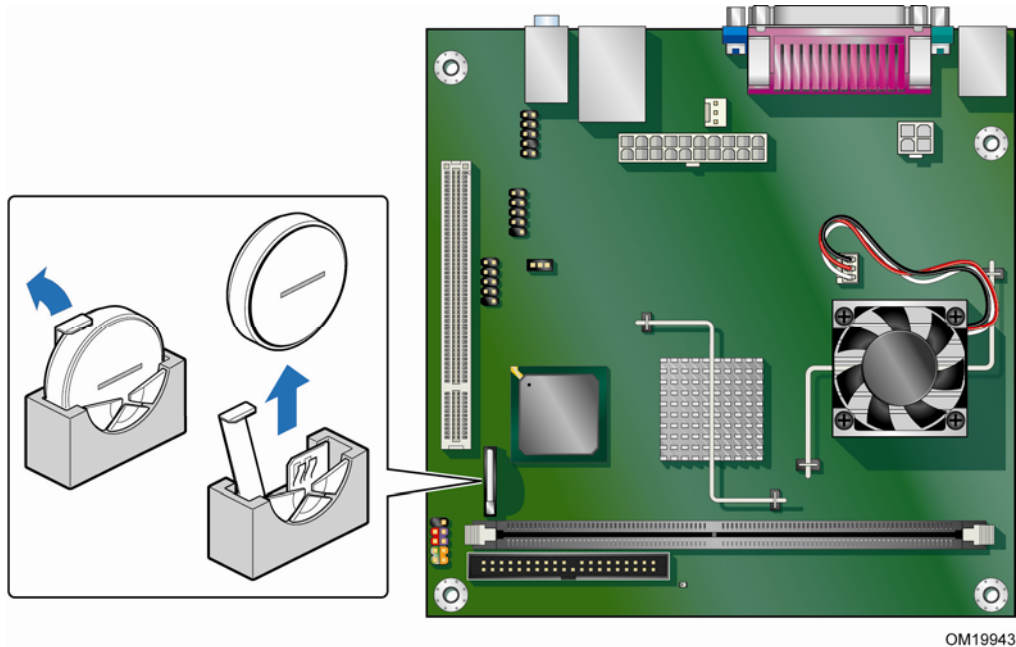

Figure 14. Removing the Battery
When the voltage drops below a certain level, the BIOS Setup program settings stored in CMOS RAM (for example, the date and time) might not be accurate. Replace the battery with an equivalent one. Figure 14 on page 41 shows the location of the battery.
4. Locate the battery on the board (see Figure 14).
5. Push the battery retention clip aside and remove the battery from the connector as shown in Figure 14. Note the orientation of the "+" and "-" on the battery.